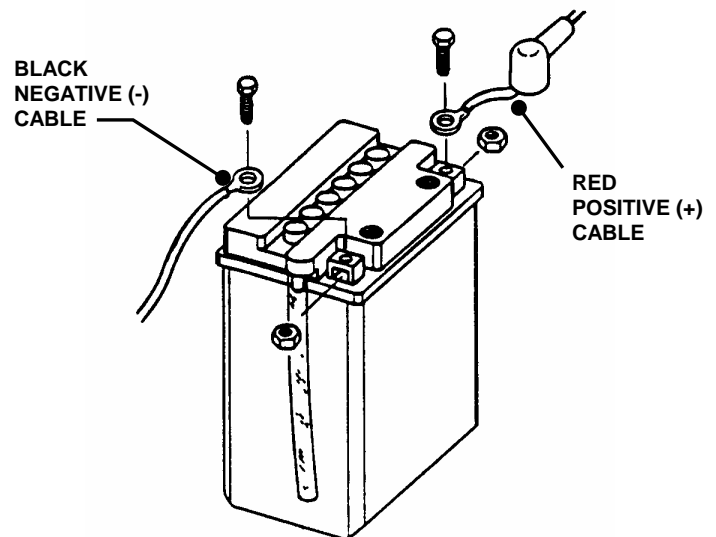

FIGURE 4.15
2. Observe and note cable positions on battery. See Figure 4.15.
2. Connect cables to battery terminals. Connect RED (Positive) cable first. Connect BLACK (Negative) cable. See Figure 4.15.
3. Place the positive (+) terminal insulator over positive terminal and cable. See Figure 4.15.